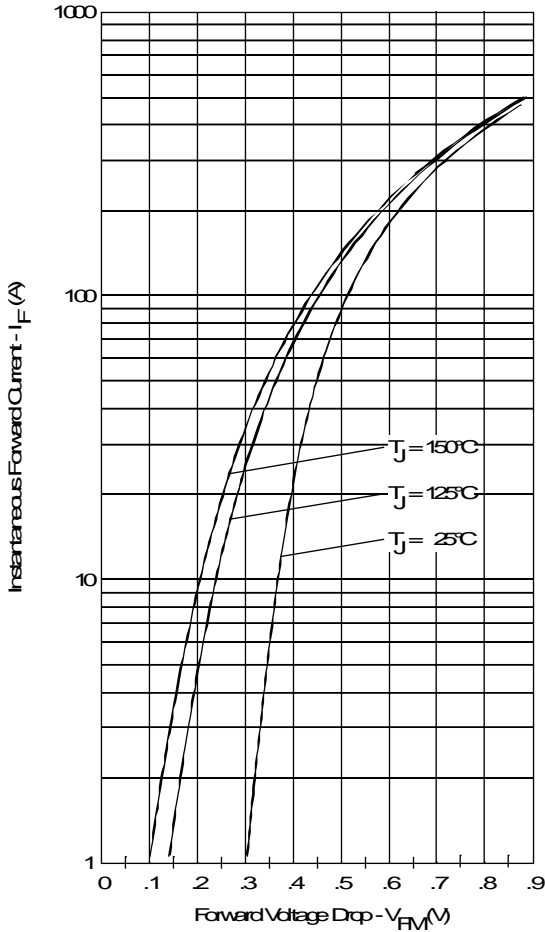

Fig. 1 - Maximum Forward Voltage Drop Characteristics
| V_{FM} Max. Forward Voltage Drop (1) * See Fig. 1 | 0.60 | V | @ 180A |